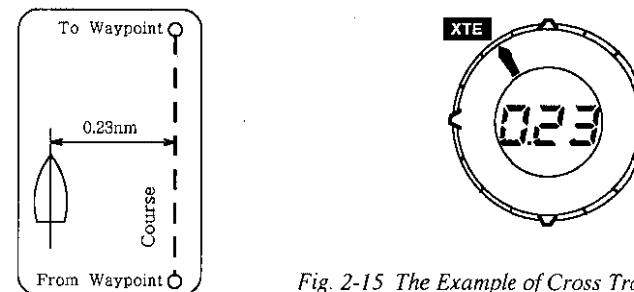

Fig. 2-15 The Example of Cross Track Error Indication
- 6) The figure 2-15 show the example of cross track error 0.23nm.